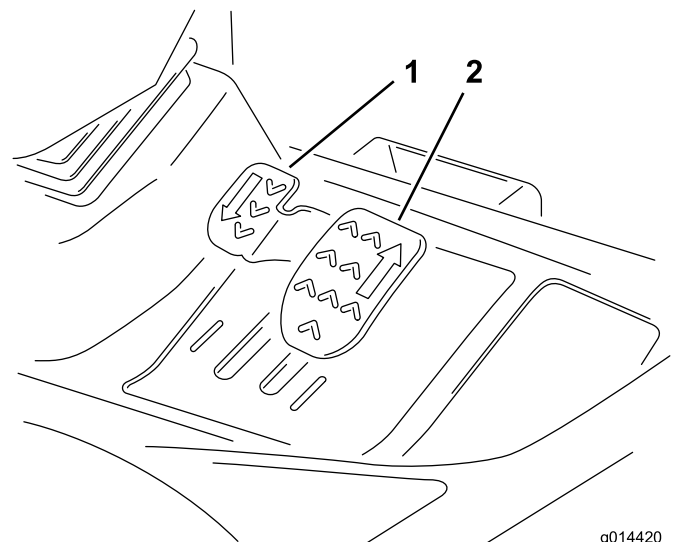

Figure 9
**Forward travel:** Press the forward travel pedal to increase forward travel speed. Release the pedal to reduce speed (Figure 9).
**Reverse travel:** Press the reverse travel pedal to increase reverse travel speed. Release the pedal to reduce speed (Figure 9).